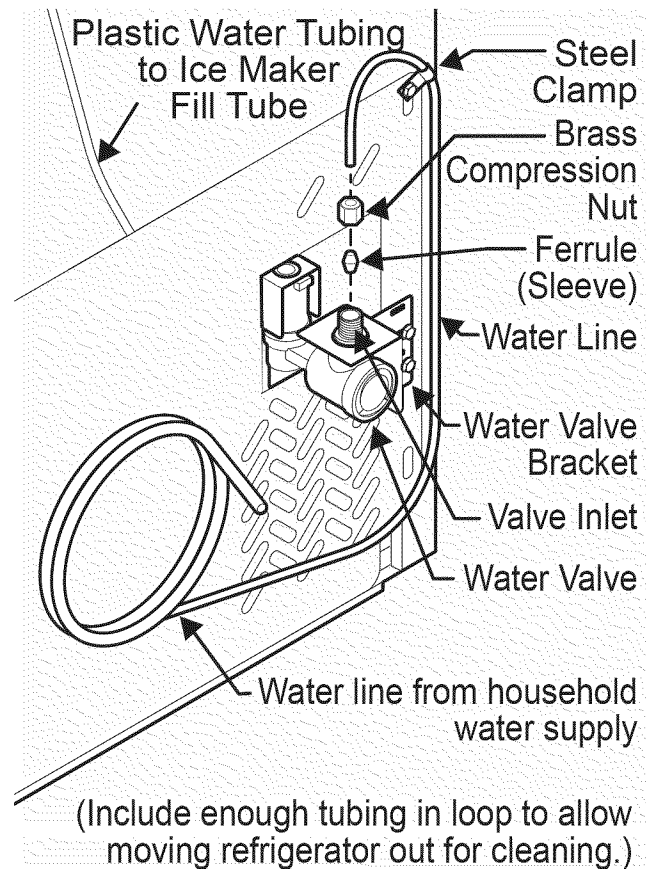

Figure 1
4. **If you use copper tubing** - Slide brass compression nut, then ferrule (sleeve) onto water supply line. Push water supply line into water valve inlet as far as it will go (1/4 inch/6.4 mm). Slide ferrule (sleeve) into valve inlet and finger tighten compression nut onto valve. Tighten another half turn with a wrench; DO NOT over tighten. See Figure 1.
If you use stainless steel tubing - The nut and ferrule are already assembled on the tubing. Slide compression nut onto valve inlet and finger tighten compression nut onto valve. Tighten another half turn with a wrench; DO NOT over tighten. See Figure 1.